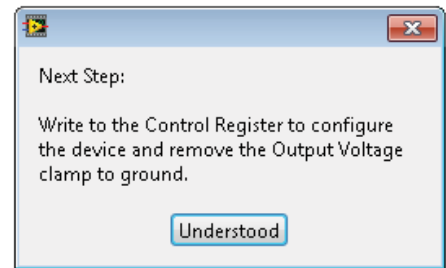
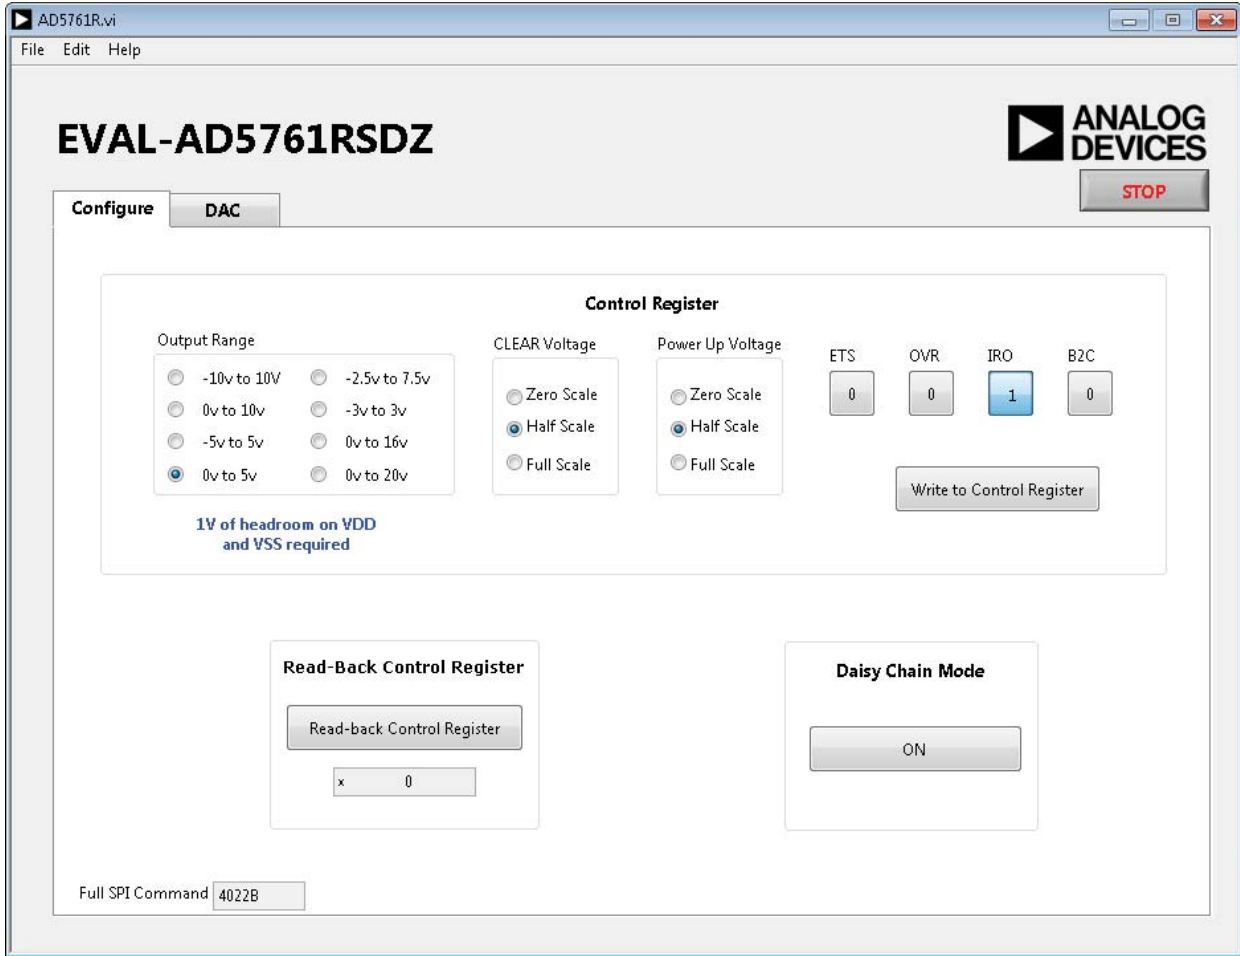

Figure 6. First Write Reminder
Figure 7. Evaluation Software Main Window, **Configure** Tab
1. From the **Start** menu, click **Analog Devices > AD5761R > AD5761R Evaluation Software**. The main window of the software opens (see Figure 7).
The **Configure** tab allows access to the control register and the mode of the daisy-chain functionality of the device. Figure 7 shows the **Configure** tab in the main window.
The **AD5761R** requires an initial command to write to the control register to remove the output clamp to ground. A dialog box appears as a reminder to write to the control register (see Figure 6). During the same write, configure the **AD5761R** as necessary to modify the default values for the power-up voltage (**Power Up Voltage**), voltage output range (**Output Range**), clear voltage (**CLEAR Voltage**), overrange (**OVR**), bipolar range coding (**B2C**), thermal shutdown alter (**ETS**), and internal reference mode (**IRO**). (See Figure 7.)